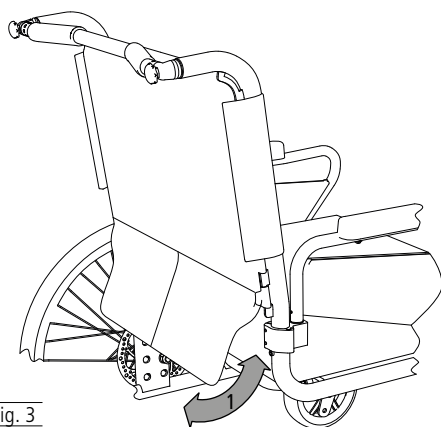

Fig. 3
1. The flap of the back pad can be attached at the rear side of the seat cushion by fastening the Velcro. Thus the gap between backrest and seat cushion can be closed. (1, Fig. 3).